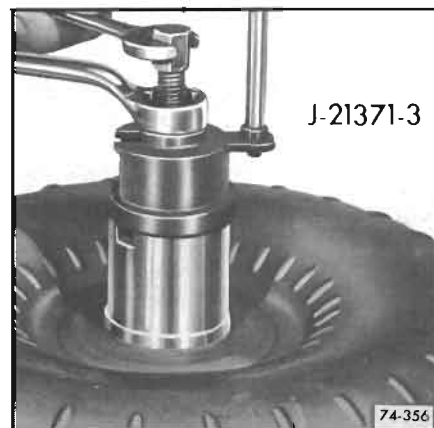

Figure 74-744
b. Install Tool J-21371-3 and tighten hex nut. See Figure 74-744.